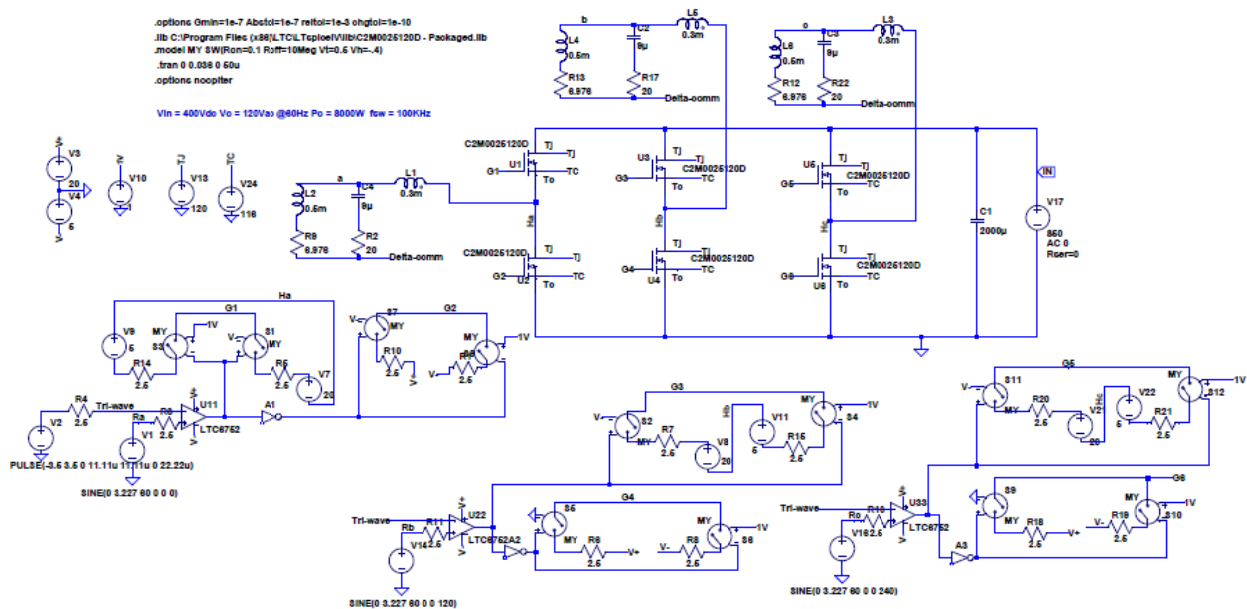

Figure 1: 3phase 2 level PV inverter model circuit
3. The model will be similar to the one shown in figure 1.